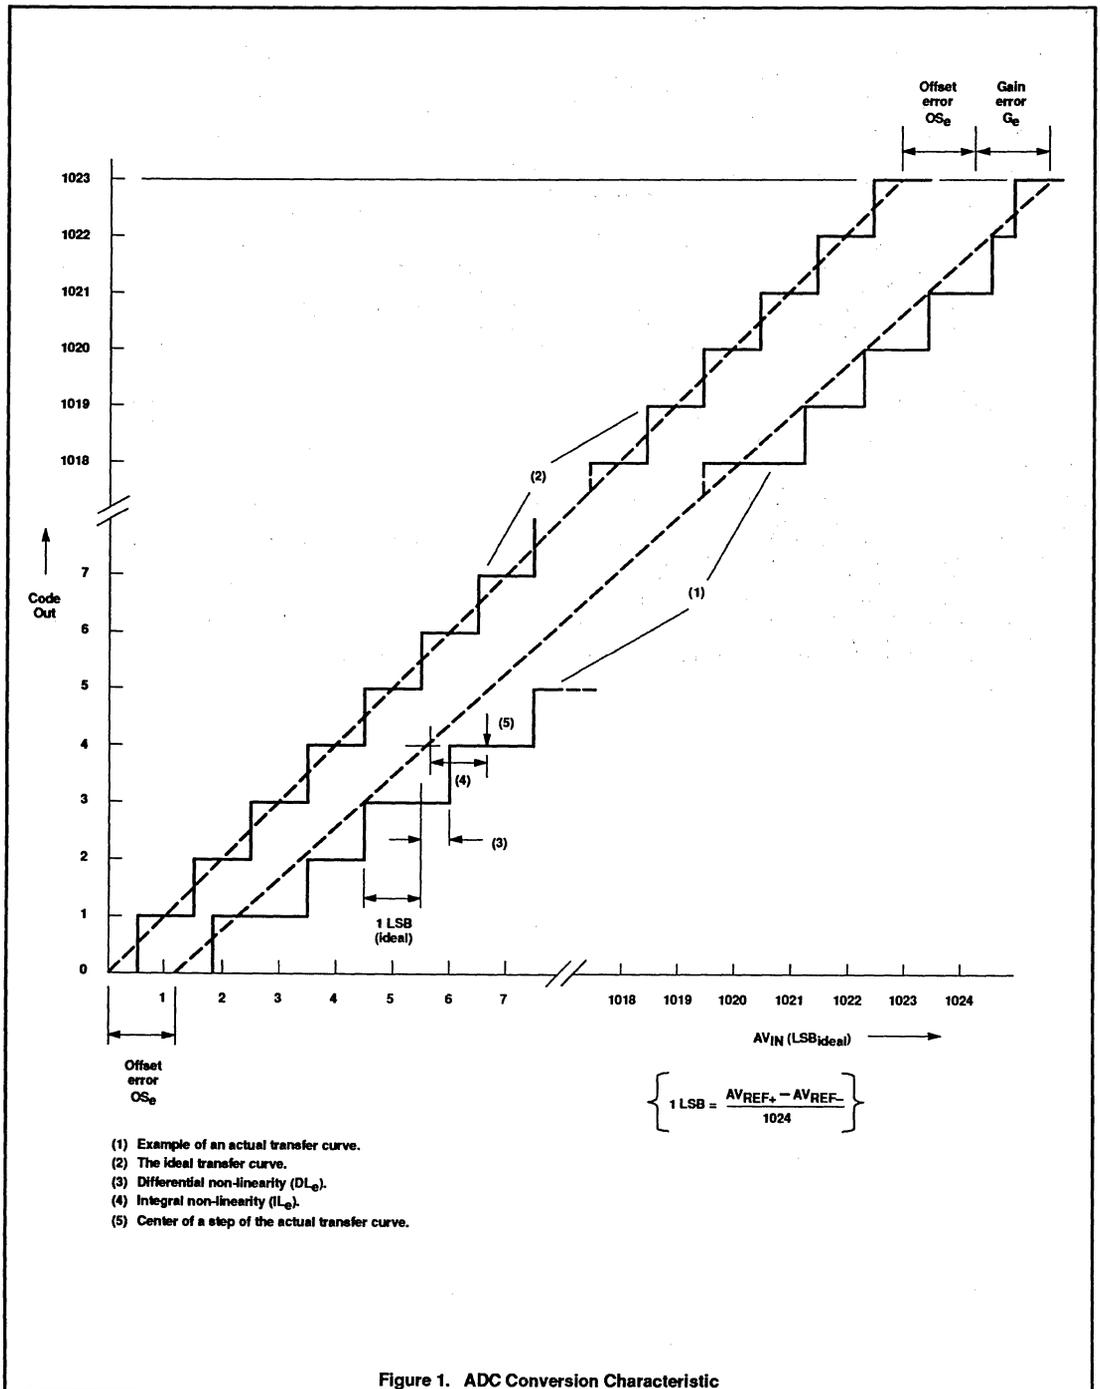

Figure 1. ADC Conversion Characteristic
11. The differential non-linearity (DL_n) is the difference between the actual step width and the ideal step width. (See Figure 1.)
13. The integral non-linearity (IL_n) is the peak difference between the center of the steps of the actual and the ideal transfer curve after appropriate adjustment of gain and offset error. (See Figure 1.)
14. The offset error (OS_n) is the absolute difference between the straight line which fits the actual transfer curve (after removing gain error), and a straight line which fits the ideal transfer curve. (See Figure 1.)
15. The gain error (G_n) is the relative difference in percent between the straight line fitting the actual transfer curve (after removing offset error), and the straight line which fits the ideal transfer curve. Gain error is constant at every point on the transfer curve. (See Figure 1.)